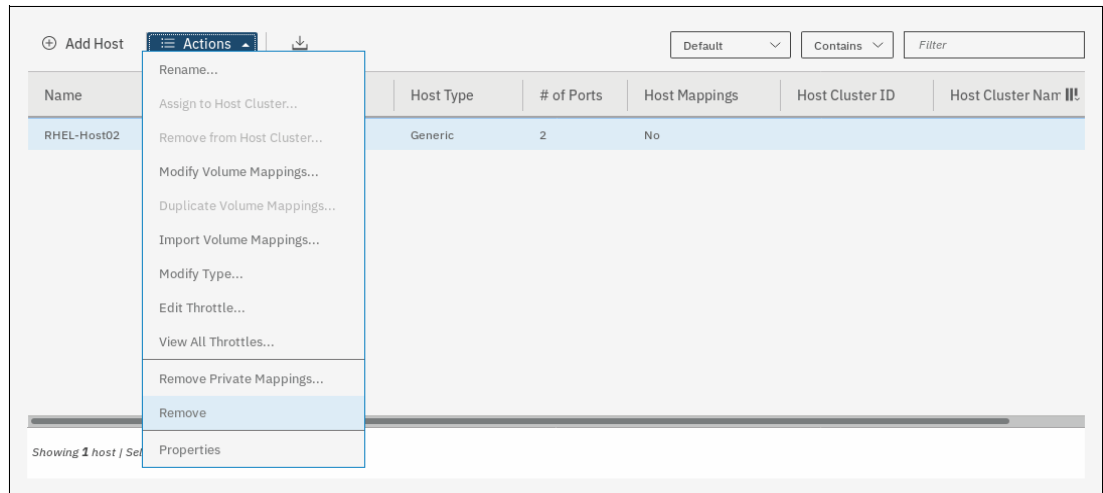

Figure 8-19 Selecting Remove operation
2. Select the host that needs to be removed and click **Action**, as shown in Figure 8-19.